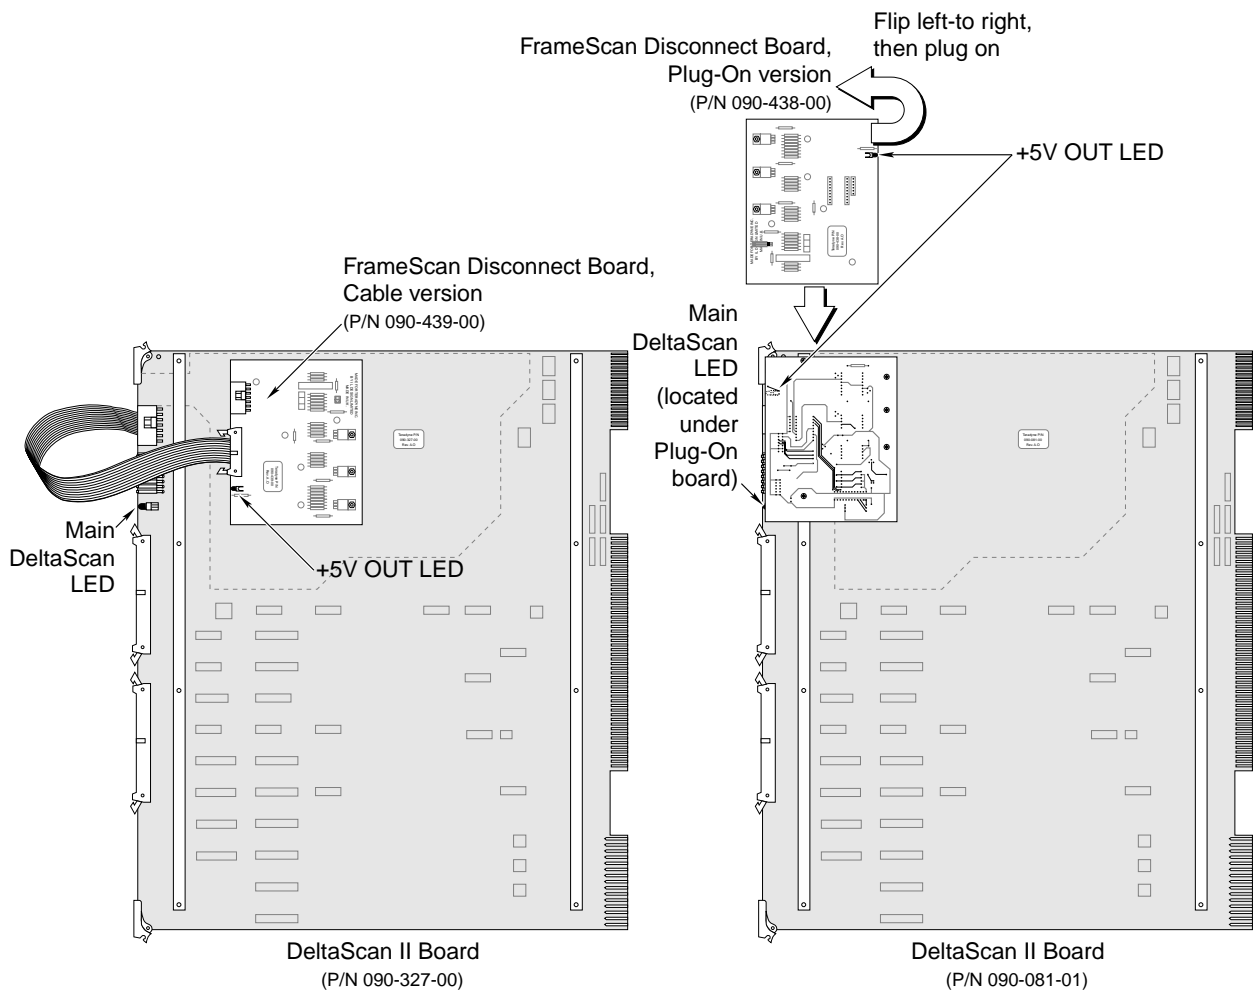

Figure 1. DeltaScan II with FrameScan Disconnect Board Installed
4. Determine if the FrameScan Disconnect board is installed. You can make this determination without removing any boards and without powering down the system. See Figure 1 below.
If your system has the Plug-On Version (see Figure 1 above) of the disconnect board installed, you will also have to disconnect the cable going to J4.